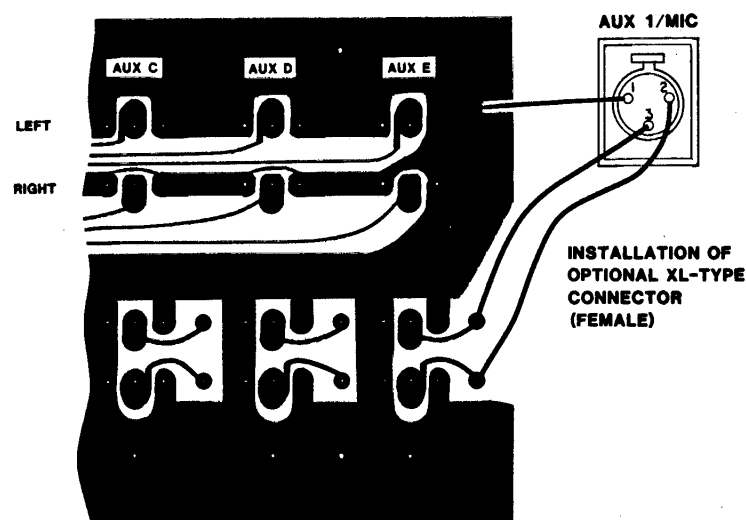

FIGURE 4-2. Rear Panel Circuit Board
- 4) Connect a short wire from Pin 3 of the XL connector to the center pin of the left channel RCA-type connector for the designated location. See Figure 4-2 for the location of the RCA-type connectors on the printed circuit board on the rear panel.
- 6) Connect a short wire from Pin 1 of the XL connector to the ground plane of the rear panel circuit board. Refer to Figure 4-2.